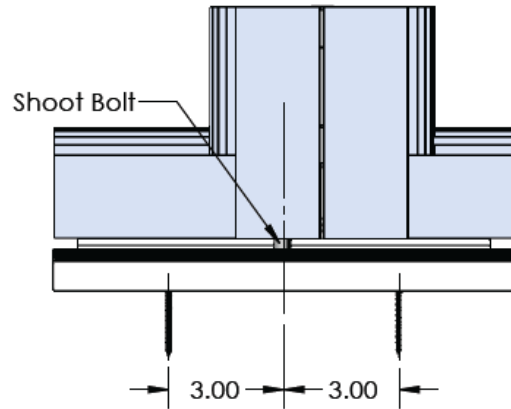

Figure 8:
C. Sill Shoot Bolt: For each DPL, anchors are to run through the sill underneath the PVC insert 3" to the left and 3" to the right of each shoot bolt hole (Figure 8). Flush Track, see Frame Condition 4 (pg.12).